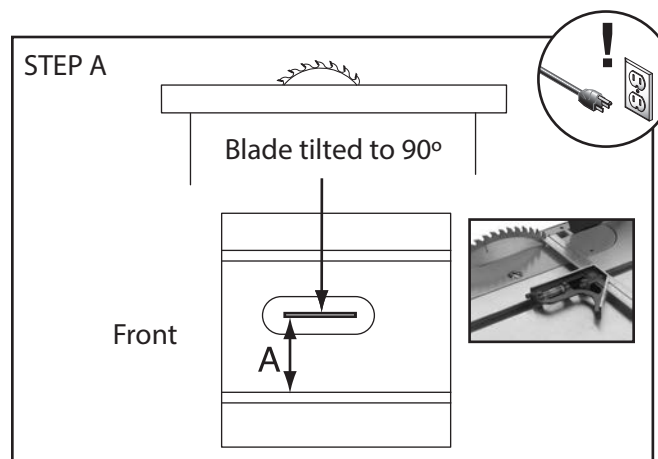

Figure 106. Measuring distance from miter slot to carbide tip of blade.
3. Measure from miter slot to a carbide tip on blade, as shown in **Figure 106**.